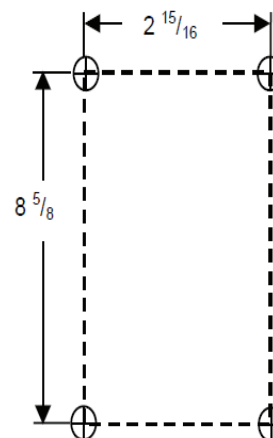

Figure 1.
2. Select a mounting location that will provide suitable strength and rigidity for supporting all contained wiring and internal transformer. Do not mount as part of a pendant mounting conduit installation. Use #10 size hardware to securely mount enclosure back box to the desired location (See Figure 1 for mounting pattern dimensions).